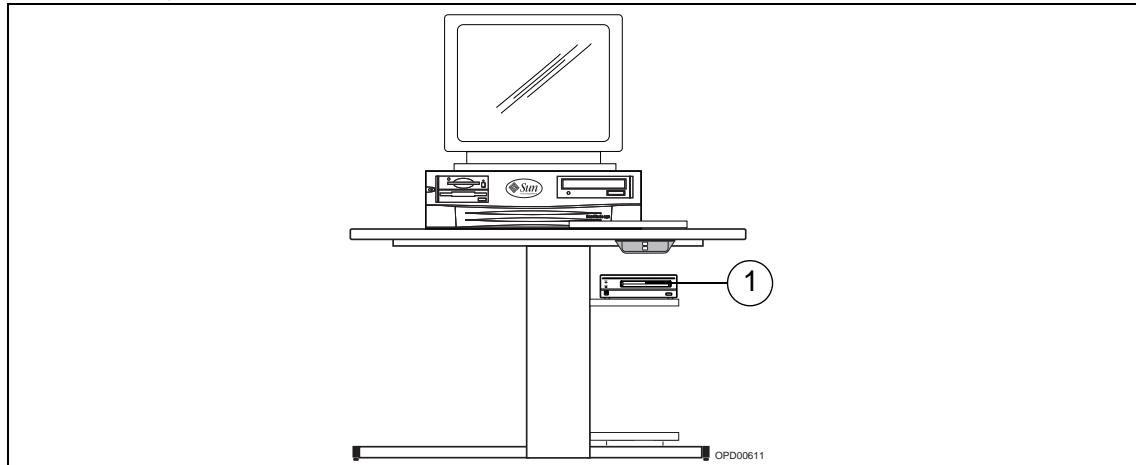

Fig. 11 MO Shelf
8. Mount the MO unit shelf on the right below the tabletop (1/Fig. 11).
9. Place the MO unit to the right on the shelf (1/Fig. 11).